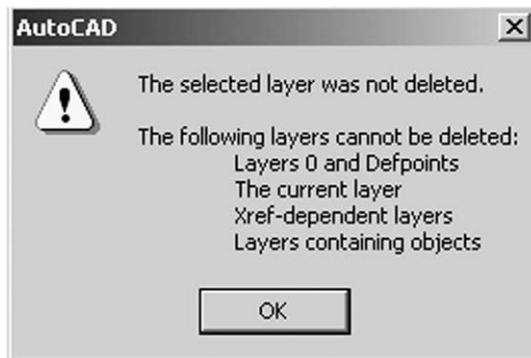

Figure 10.11 The layer message box.
b) Pick OK from this message box (Figure 10.11) then pick OK from the Layer Properties Manager dialogue box.